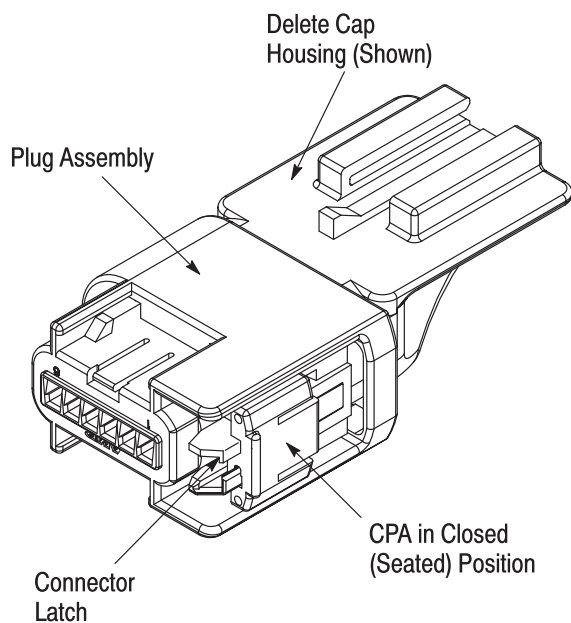

Figure 3
3. Push the CPA into the closed (seated) position. Refer to Figure 3.